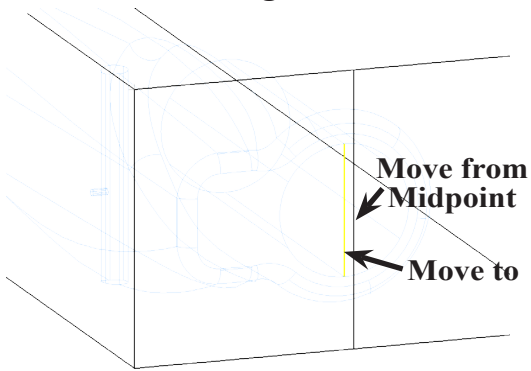

Fig. 33
Step 8. Click **copied rear line**, **Fig. 33.**